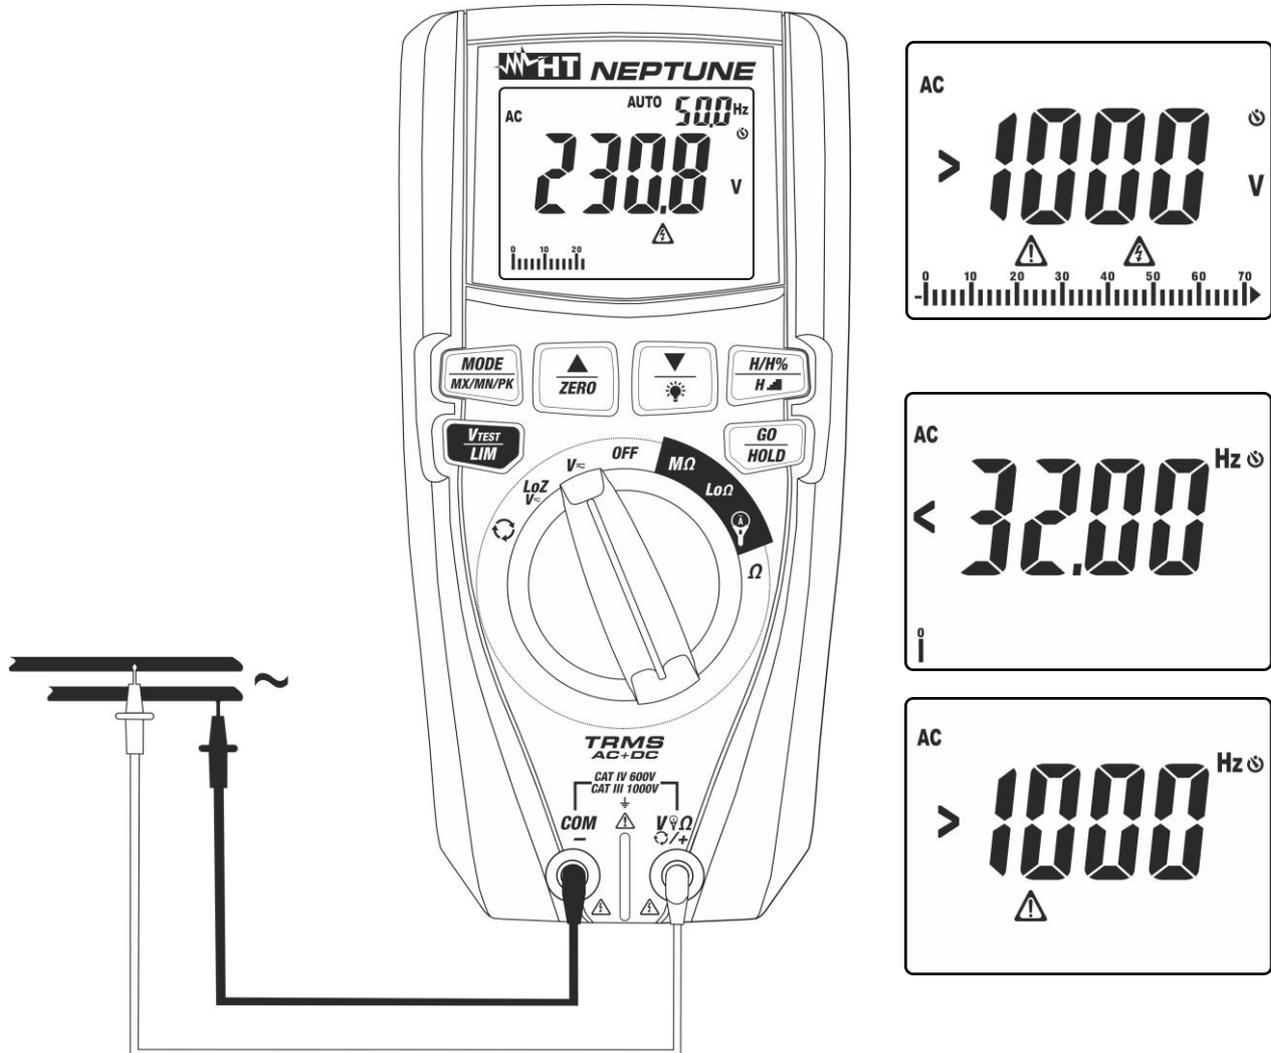

Fig. 7: Use of the instrument for AC voltage measurement
4. Position the red lead and the black lead respectively in the spots of the circuit to be measured (see Fig. 7). The display shows the value of voltage. On the top of the display on the right side, the value of voltage frequency is displayed. Press key **MODE/MX/MN/PK** to display the value of frequency with a higher resolution.
5. If the display shows the message “>1000V” (see Fig. 7), the maximum measurable value has been reached.
6. If the display shows the messages “<32Hz” or “>1000Hz” (see Fig. 7), the value of frequency is out of the measuring range 32Hz ÷ 1000Hz.